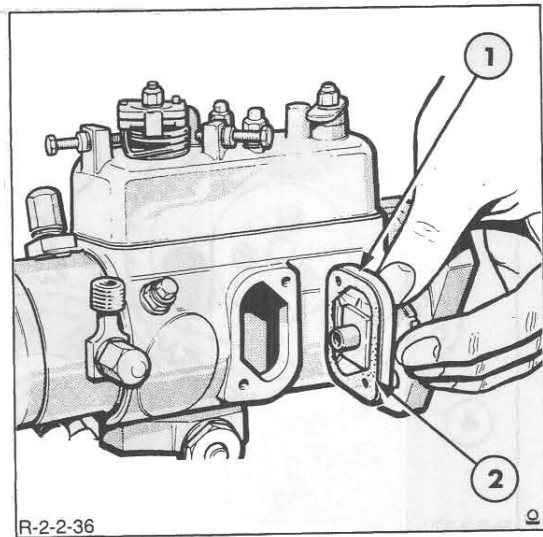

Figure 39
29. Locate the pump body inspection cover and gasket and secure with the retaining screws, Figure 39.